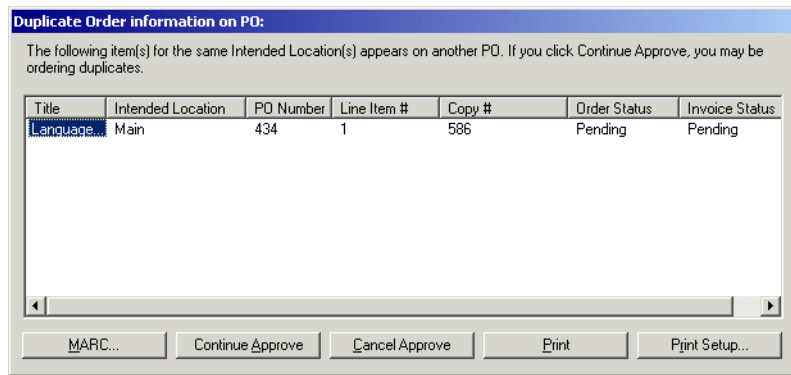

Figure 6-63. Duplicate Order Information on PO dialog box
4. Click the **Check for Duplicates** check box if you want the system to check for duplicate titles for the same location when a purchase order is approved. The system checks duplicate line items based on the Order Location and the Bibliographic ID. If any orders match these two criteria, the **Duplicate Order Information on PO** dialog box opens (see Figure 6-63).
The **Duplicate Order Information on PO** dialog box (Figure 6-63) opens when you approve a purchase order that contains titles that are on more than one purchase order for the same location, or duplicate purchase order numbers. (Providing that you checked the **Check for Duplicates** check box of the Approve Options section when approving a PO.)